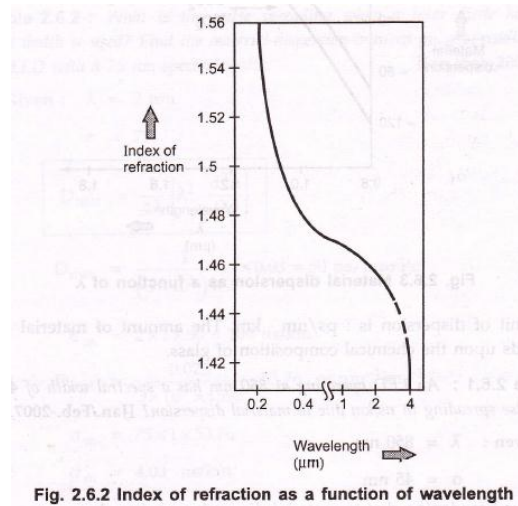

Fig. 2.6.2 Index of refraction as a function of wavelength
- Material dispersion is also called as chromatic dispersion. Material dispersion exists due to change in index of refraction for different wavelengths. A light ray contains components of various wavelengths centered at wavelength  $\lambda_{10}$ . The time delay is different for different wavelength components. This results in time dispersion of pulse at the receiving end of fiber. Fig. 2.6.2 shows index of refraction as a function of optical wavelength.